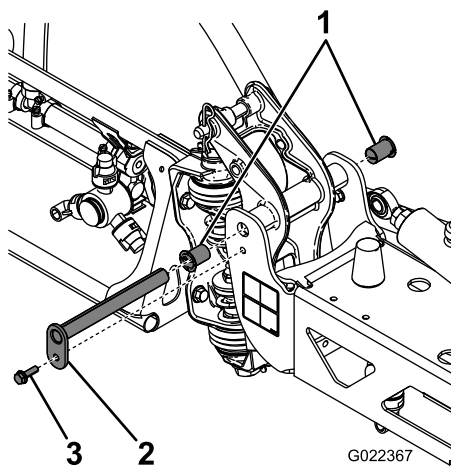

Figure 62
3. With the weight of the boom supported, remove the bolt and nut securing the pivot pin to the boom assembly (Figure 62).
4. Remove the bolt and nut that secure the pivot pin, and remove the pin (Figure 62).
6. Remove and inspect the nylon bushings from the front and back sides of the pivot bracket (Figure 62).
7. Place a small amount of oil on the nylon bushings, and install them into pivot bracket (Figure 62).
8. Install the boom and pivot bracket assembly into the center frame, aligning the holes (Figure 62).